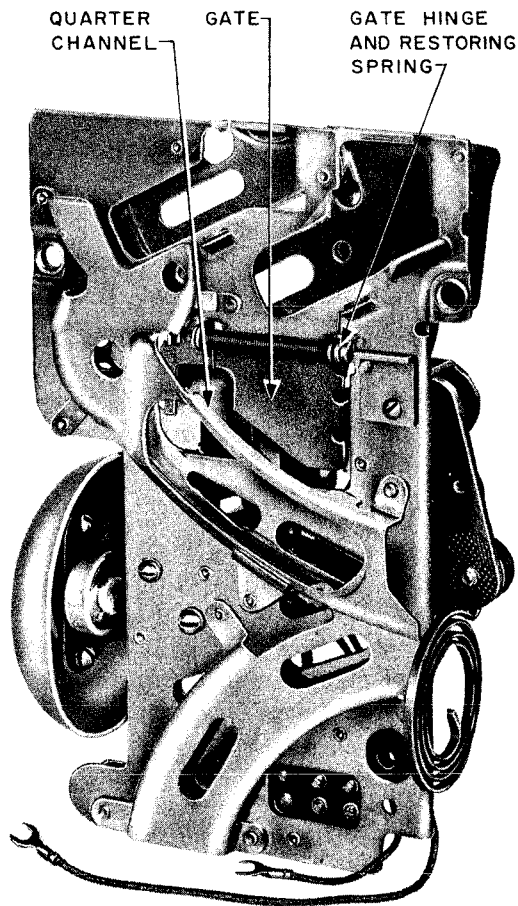

Fig. 4 — P-20A125 Coin-chute Assembly, Rear View
**3.10** A hinged gate is provided in the rear wall of the nickel channel opposite the holding and locking latches (see Fig. 4). Pennies which may reach the holding latch will be ejected through an opening in the gate. A single nickel deposited and held by the holding latch will be released by the gate and fall into the return chute when the handset or receiver is hung up. The gate is controlled by an operating arm on the switchhook. The gate is open when switchhook is down and closed when switchhook is up. Nickels deposited when switchhook is down will pass through the open gate and into return chute. The gate is also opened by the coin-release push-button mechanism.